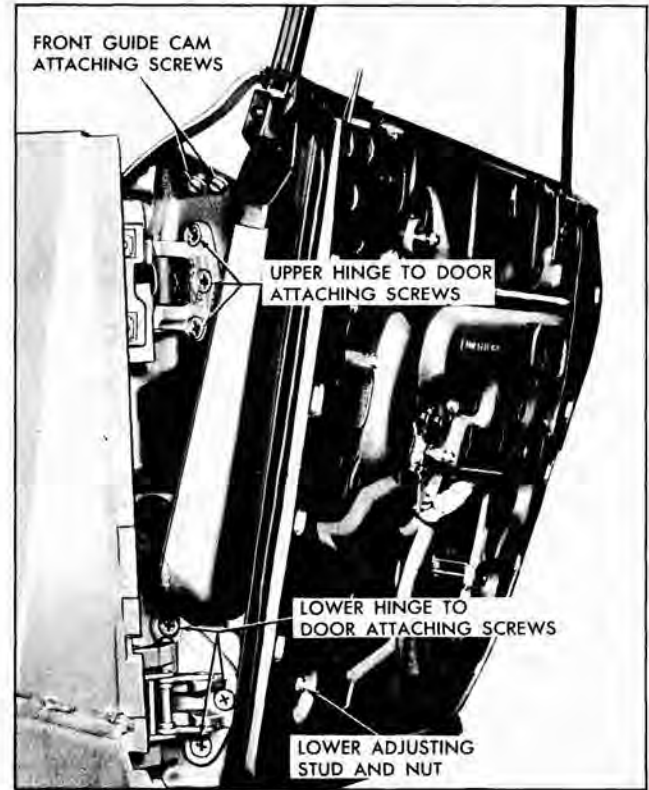

Fig. 3-35 Rear Door Hinge Attachment
1. For in and out or up and down adjustment, loosen hinge to door pillar attaching screws (Fig. 3-35). Adjust door as required and tighten screws.